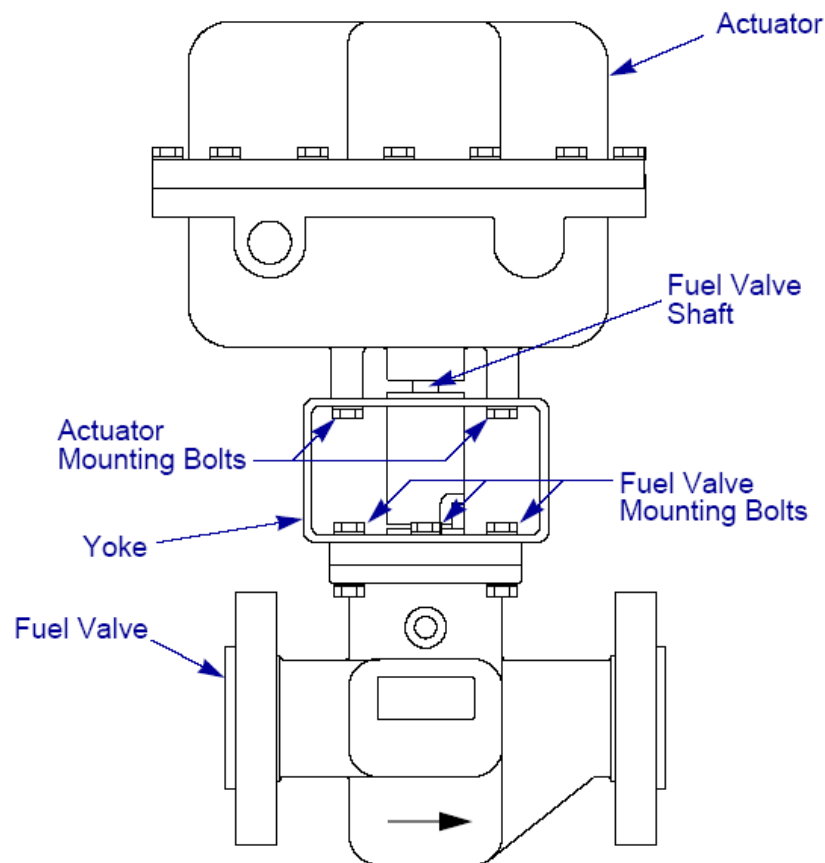

Fig 23 Fuel Valve and Actuator Assembly (2-inch Fuel Valve Shown)
- 13 Remove the bottom set screws and lock screws from the coupling (coupling shown in Fig 23).
- 14 Remove the bolts between the yoke and fuel valve body (see Fig 23), then separate the actuator from the valve.
- 8 Remove the bottom set screws and lock screws from the coupling (see Fig 23 on page 65).
- 9 Remove the bolts between the yoke and fuel valve body (see Fig 23), then separate the actuator from the valve.